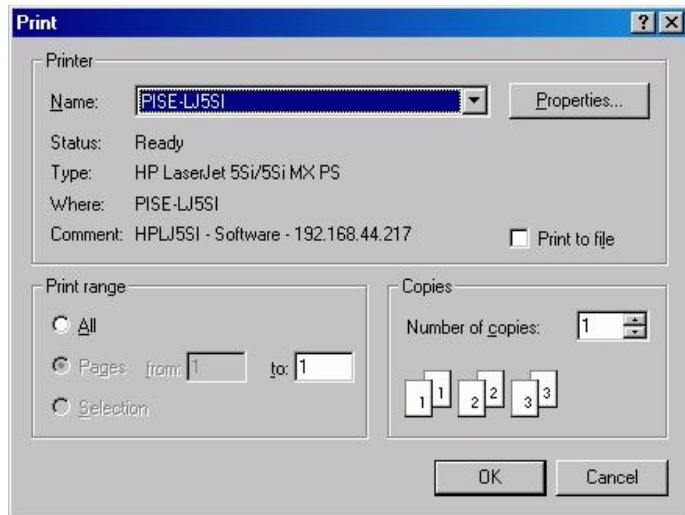

Figure 161. Print dialog
1. From the File menu, open the Print dialog (Figure 161).